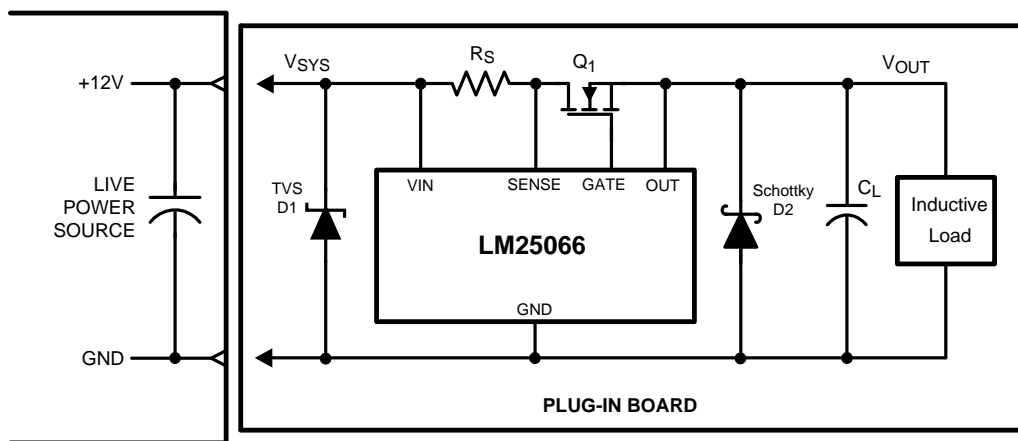

Figure 48. Output Diode Required for Inductive Loads
A) Continued proper operation of the LM25066 hot-swap circuit normally dictates that capacitance be present on the supply side of the connector into which the hot-swap circuit is plugged in, as depicted in Figure 48. The capacitor in the "LIVE POWER SOURCE" section is necessary to absorb the transient generated whenever the hot-swap circuit shuts off the load current. If the capacitance is not present, parasitic inductance of the supply lines will generate a voltage transient at shut-off which may exceed the absolute maximum rating of the LM25066, resulting in its destruction. A TVS device with appropriate voltage and power ratings can also be connected from VIN to GND to clamp the voltage spike (see application note AN-2100).
B) If the load powered by the LM25066 hot-swap circuit has inductive characteristics, a Schottky diode is required across the LM25066's output along with some load capacitance. The capacitance and diode are necessary to limit the negative excursion at the OUT pin when the load current is shut off. If the OUT pin transitions more than 0.3V negative, the LM25066 will internally reset, erasing the volatile setting for retries and warning thresholds. See Figure 48. To alleviate this, a small gate resistance (for example, 10Ω) can be used. This resistor has the added benefit of damping any high frequency gate voltage oscillations, particularly in paralleled FET arrangements.